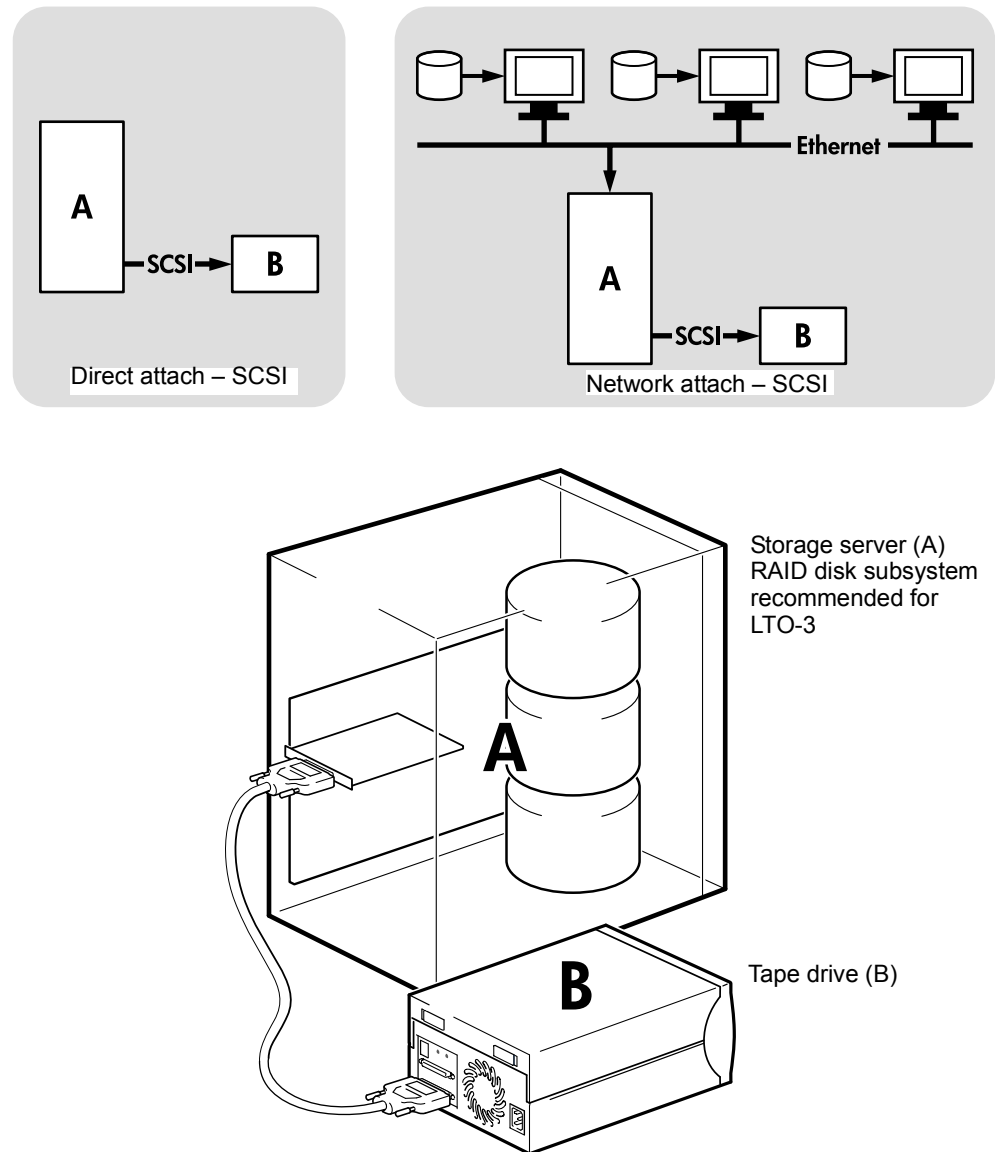

Figure 1-3 Recommended tape drive usage
The tape drive (B) can be used in a standalone or network environment. It should always be directly attached to a SCSI connector on the storage server (A), as shown in Figure 1-3.